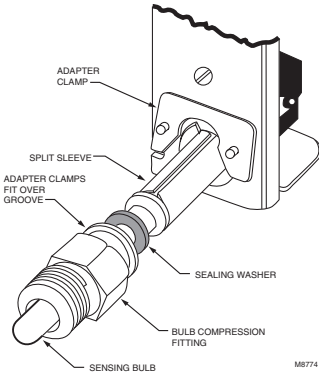

Fig. 3. Direct immersion model with bulb compression fitting partially removed.
1. Be sure sealing washer is in place as shown in Fig. 3. Make sure that spud of capsule compression fitting is screwed in tightly enough to prevent leaking.